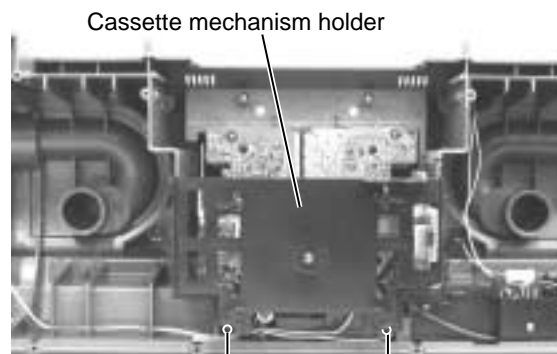

Fig.14
■ Removing the cassette mechanism holder (See Fig.14)